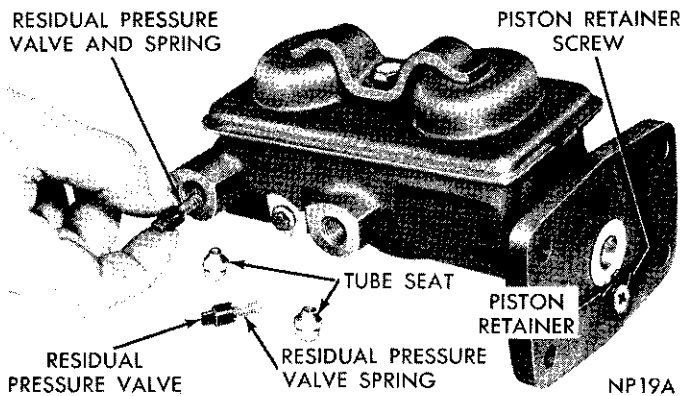

Fig. 3—Removing or Installing Residual Pressure Valves and Springs
(7) Remove two residual pressure valves and springs (Fig. 3).